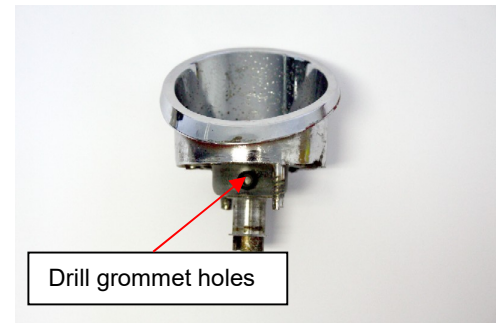

Figure 2
3. OPTIONAL: If sequential turn signal patterns are desired, for each Taillight housing, drill 1 – 3/16" hole on the bottom surface of the Taillight housing. (See Figure 2) The exact location of each hole is not critical. Then install provided rubber grommet into the drilled hole. One method to simplify installation is to pinch grommet, insert protruding edge into the hole, then use a small flat blade screwdriver to push/work the remaining edge through the hole.